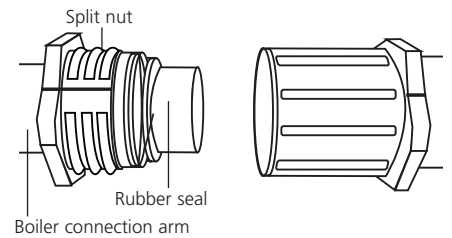

Figure 2b: Boiler coupling
- 12 Refer to fig. 2b. Undo outer nut from plastic coupling. Open split plastic nut and place on outlet of boiler connection arm. Attach level control to boiler
- 13 Unscrew the black plastic screwcap from the WL48 and assemble the glass funnel WF48 – item 4.